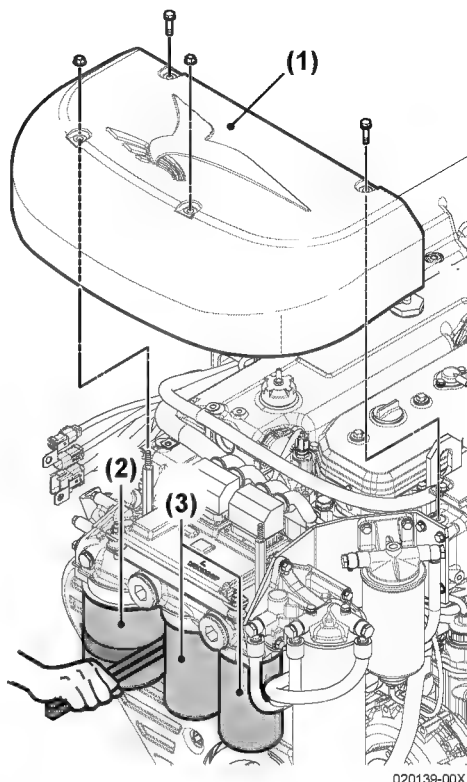

Figure 2
(Figure 2, (1)).
((Figure 2, (2)) et (Figure 2, (3))) en